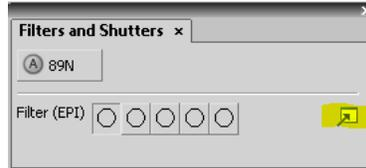

Figure 8
1. Right-Click on the Elements Background, and select the “Acquisition Controls” group. Next select “Filters and Shutters”. This window should now show your other devices (if installed), as well as the PhotoFluor 5 position filter wheel, and the PhotoFluor Shutter. See Figure 8 below.
2. Click the Icon in the far right of the filter list (Highlighted in Figure 8 above). This box allows you to specify the filter wheel positions for the PhotoFluor.